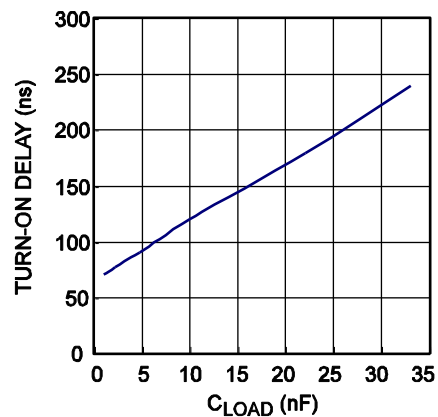

**Figure 11: Synchronous Rectification Typical Waveform in LLC**
Figure 11 shows the typical waveform of the LLC on the secondary side. To achieve a fairly high usage of the MOSFET's  $R_{DS(ON)}$ , it is expected that the MOSFET driver voltage is kept at the maximum level until the last 25% of the SR conduction period. Calculate  $V_{DS}$  with Equation (2):